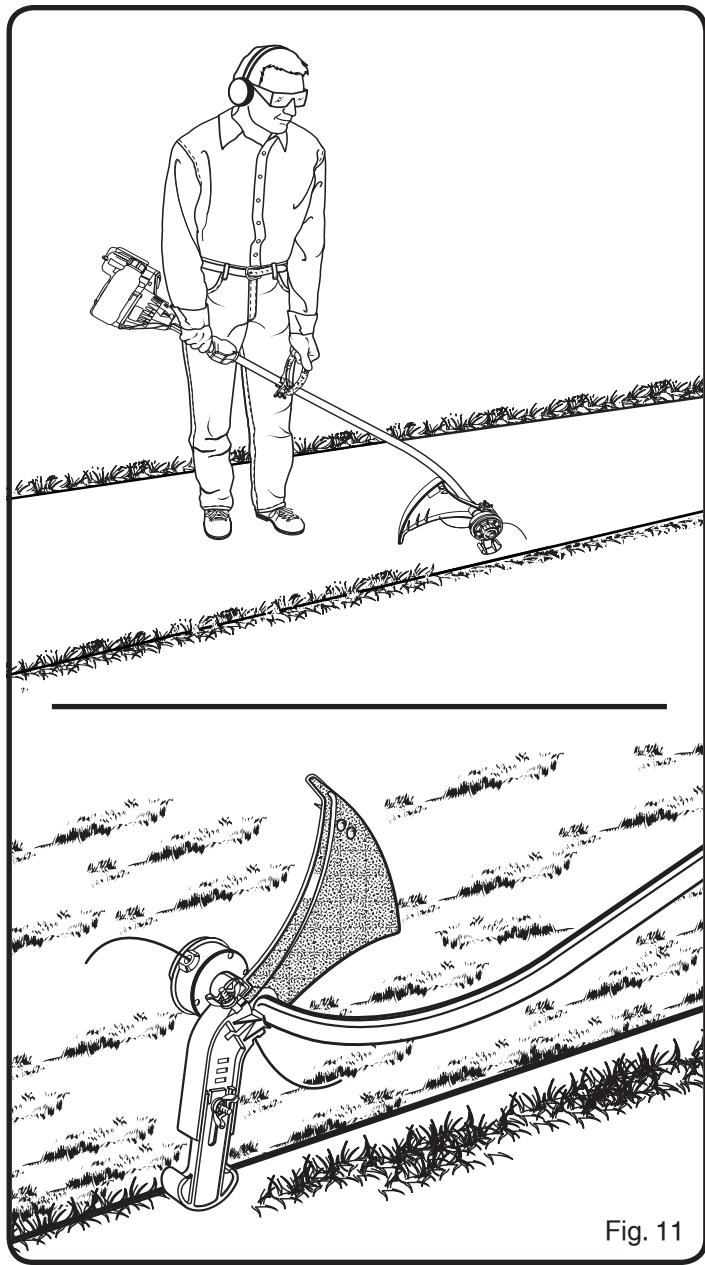

Fig. 11
- Be extremely careful when tilting the trimmer to use as an edger. The muffler, and the exhaust from the muffler get very hot during operation. Keep the muffler away from all body parts. See *Figure 11*.